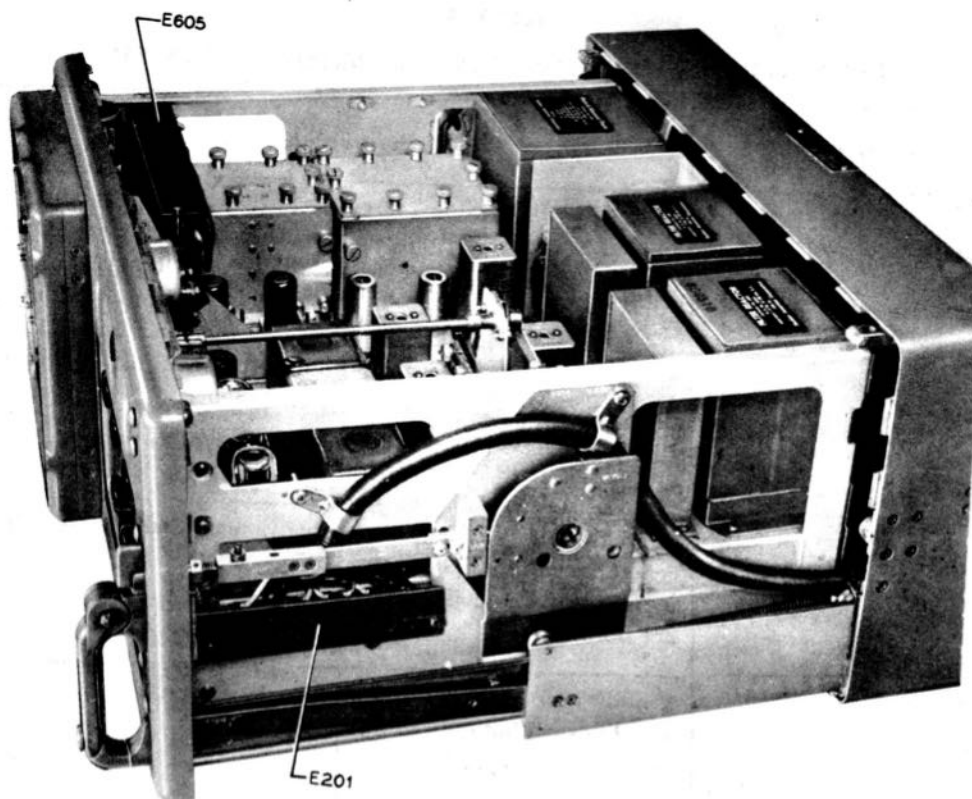

Figure 3-17. Radio Receiver RDZ/RDZ-1, View of Chassis Showing Terminal Boards
5. If the RDZ/RDZ-1 is disconnected from the remote control units or associated cables, the silencer circuits will be inoperative; under these conditions, line E on terminal board E201 must be grounded to the chassis with a clip lead. See figure 3-17.